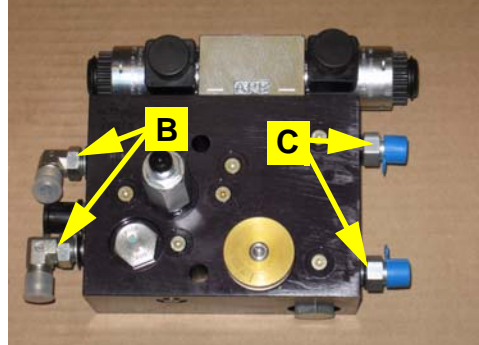

Figure 1: Prepared automated steering block
- b. Install adapter fitting **B** in the **P** and **T** ports and adapter fittings **C** in the **A** and **B** ports of the automated steering block (Figure 1).